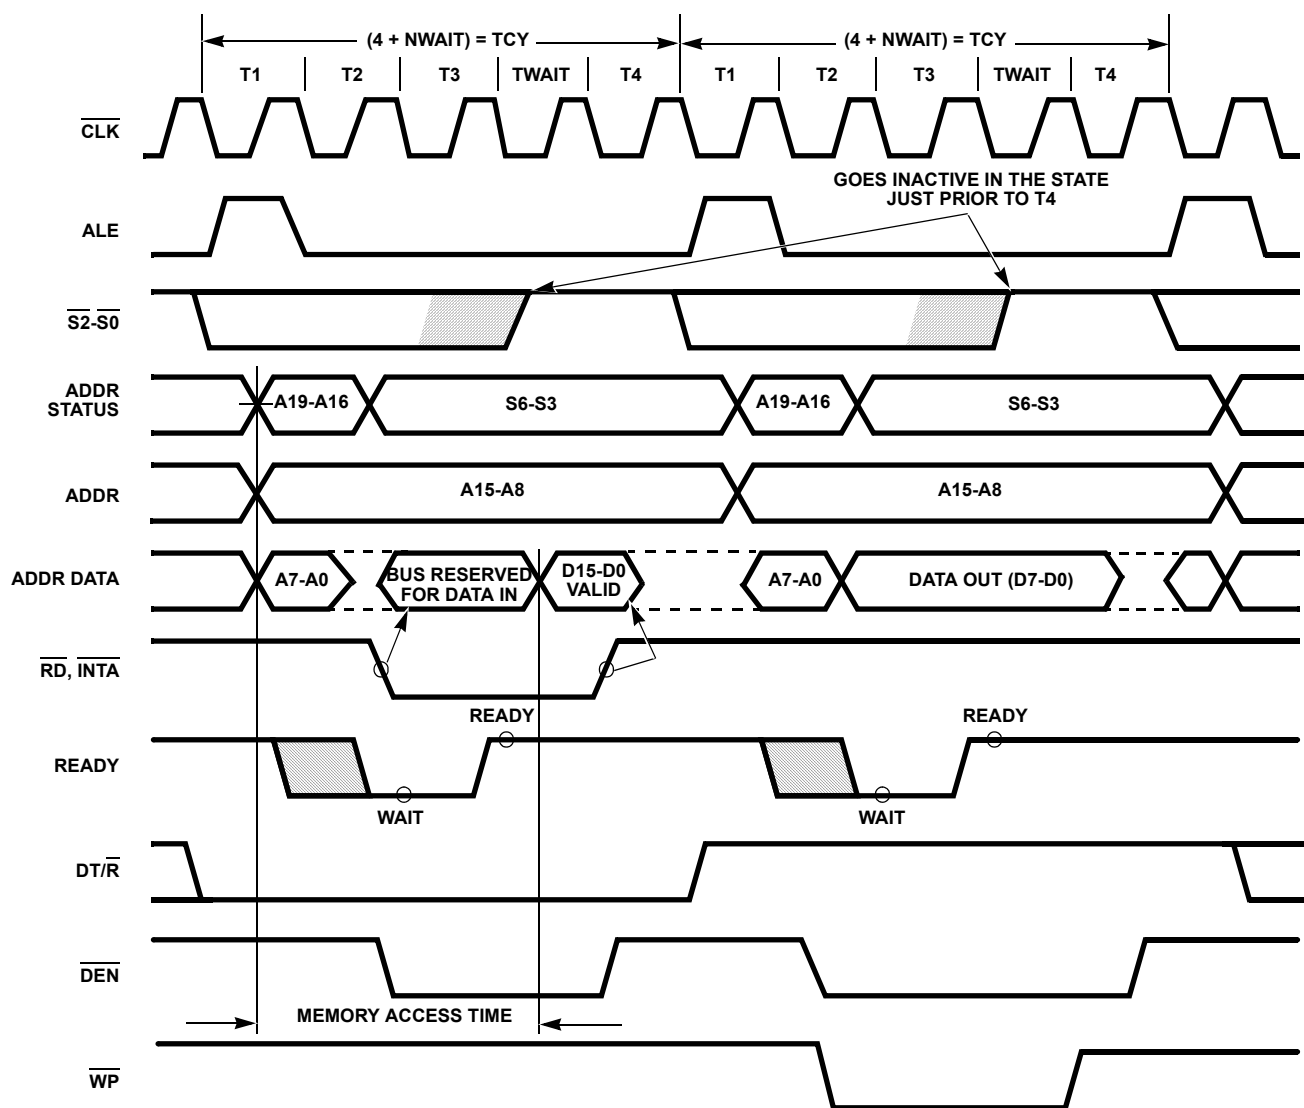

FIGURE 5. BASIC SYSTEM TIMING
Each processor bus cycle consists of at least four CLK cycles. These are referred to as T1, T2, T3 and T4. (See Figure 5). The address is emitted from the processor during T1 and data transfer occurs on the bus during T3 and T4. T2 is used primarily for changing the direction of the bus during read operations. In the event that a "Not Ready" indication is given by the addressed device, "wait" states (TW) are inserted between T3 and T4. Each inserted "wait" state is of the same duration as a CLK cycle. Periods can occur between 80C88/883 driven bus cycles. These are referred to as "idle" states (TI), or inactive CLK cycles. The processor uses these cycles for internal housekeeping.
The read cycle begins in T1 with the assertion of the address latch enable (ALE) signal (see Figure 5). The trailing (low going) edge of this signal is used to latch the address information, which is valid on the address data bus (AD0-AD7) at this time, into the 82C82/82C83 latch. Address lines A8 through A15 do not need to be latched because they remain valid throughout the bus cycle. From T1 to T4 the $\text{IO}/\overline{\text{M}}$ signal indicates a memory or I/O operation. At T2 the address is removed from the address data bus and the bus is held at the last valid logic state by internal bus-hold devices. The read control signal is also asserted at T2. The read ($\overline{\text{RD}}$) signal causes the addressed device to enable its data bus drivers to the local bus. Some time later, valid data will be available on the bus and the addressed device will drive the READY line HIGH. When the processor returns the read signal to a HIGH level, the addressed device will again three-state its bus drivers. If a transceiver (82C86/82C87) is required to buffer the